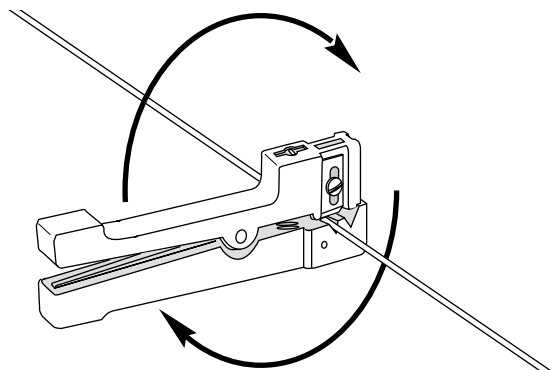

Figure 34
- Use your other hand to rotate the tool around the buffer tube two to three complete turns to score it (Figure 34). Remove the tool from the buffer tube.